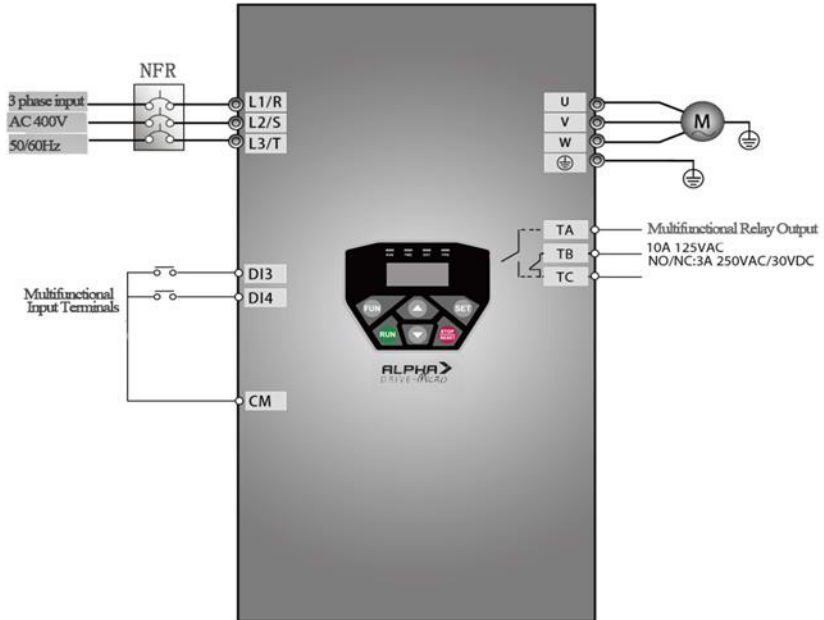

Figure 5-2 Wiring Diagram
(1) Connect the wires in accordance with Figure 5-2. After having checked the wiring successfully, switch the power on to the inverter;